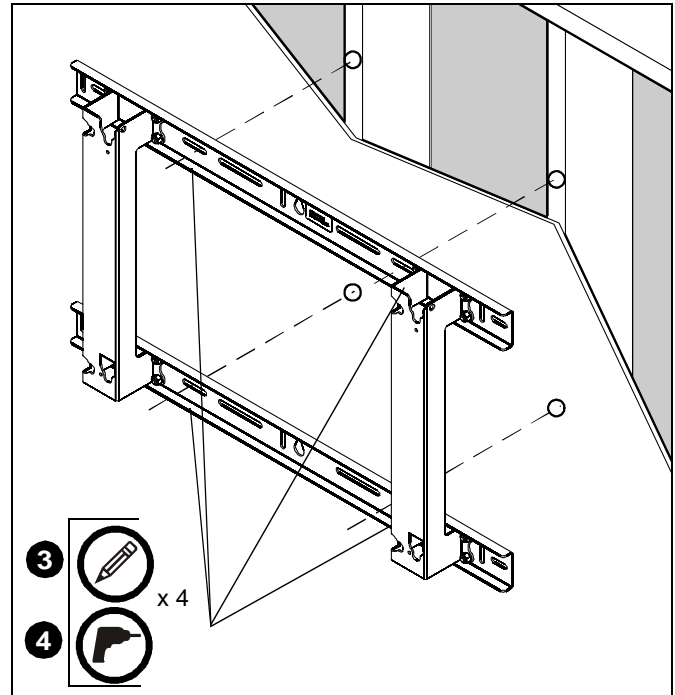

Figure 2
1. Place wall mount (A) against wall in desired installation location. (See Figure 2)
2. Level and adjust horizontal position making certain slots in the horizontal brackets are properly positioned over studs. (See Figure 2)
3. Using a pencil or similar marking tool, mark the location of mounting holes in horizontal brackets onto surface. (See Figure 2)
4. Drill four 7/32" pilot holes at marked locations. (See Figure 2)
3. Mark location of four mounting holes on wall. (See Figure 2)